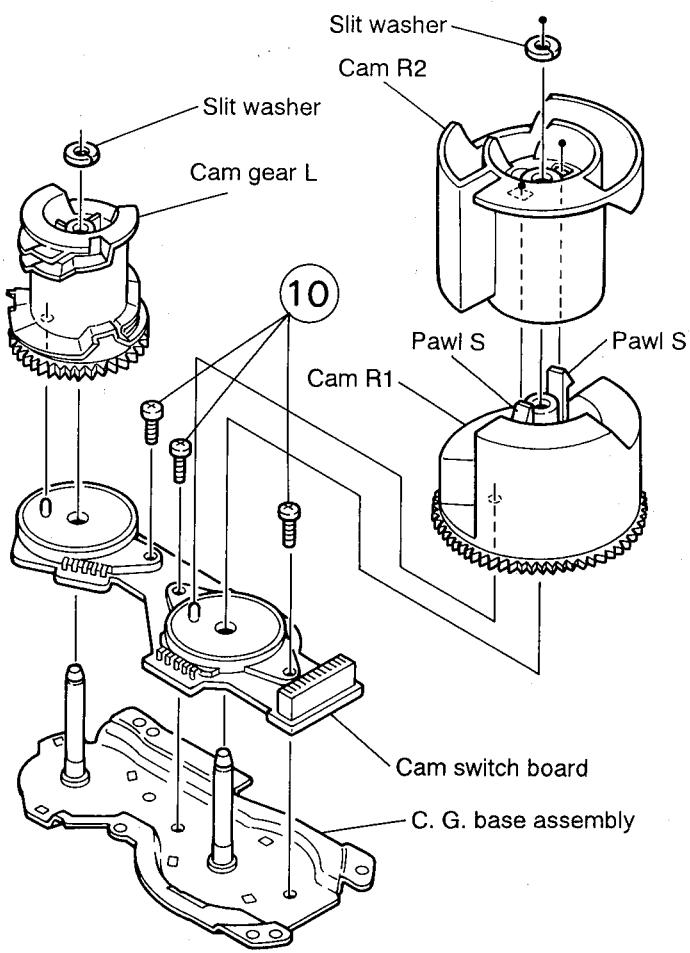

Fig. 2-32
■ Removing the cams R1/R2 assembly and cam gear L (See Fig. 2-32)
2. By removing the two pawls (S) fixing the cam R1, separate R2 from R1.
(See Figs. 2-32 and 2-33)